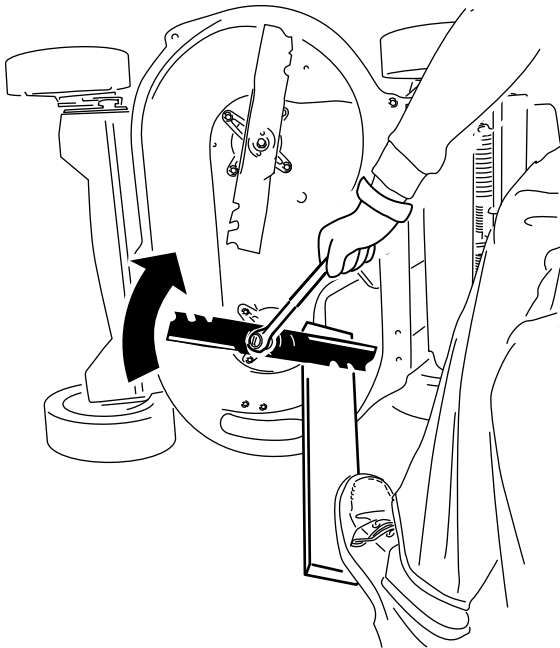

Figure 43
2. Steady each blade with a board and turn the blade bolt clockwise with a torque wrench as shown in Figure 43; torque the blade bolt to 82 N·m (60 ft-lb).